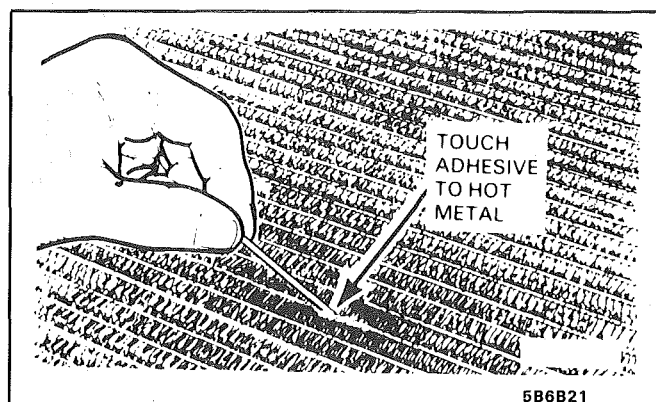

Fig. 21 Applying Hot Melt Adhesive
8. Withdraw the torch and rub the adhesive stick on the repair area (Fig. 21). The adhesive will flow at a temperature of approximately 500°F (260°C). If the stick doesn't start to melt, remove it and reapply the heat. **Do not heat the stick directly with a flame. High heat will burn and char the adhesive.**